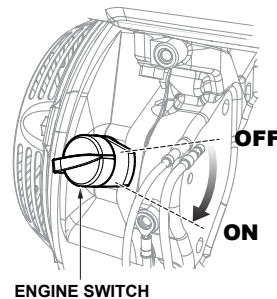

Figure 19. Engine On/Off Switch
4. Turn the engine switch (Figure 19) to the ON position.